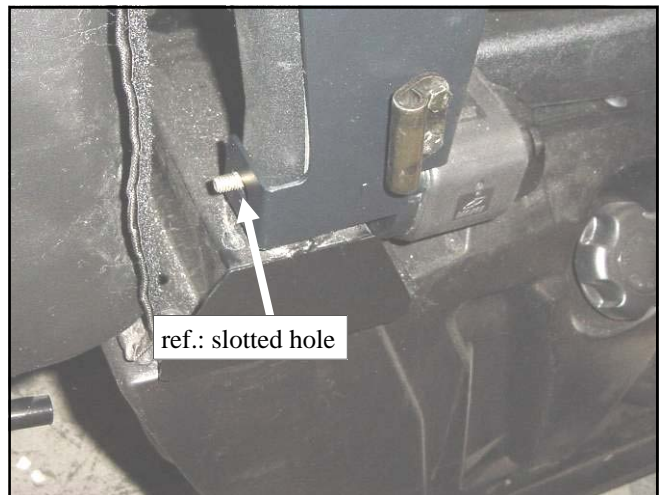
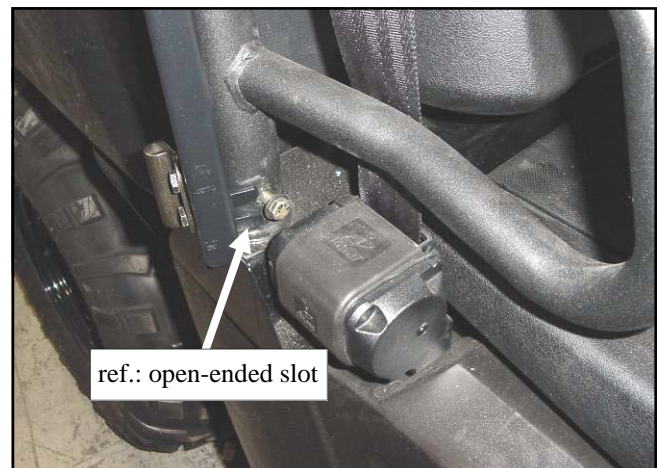

Fig. 6.6 (view from front passenger's side)
Fig. 6.6.1 (view from passenger's side)
6.6 Per fig. 6.6, install the hinge plate assembly to the vehicle by guiding the lower rear hole onto the threads of the previously installed new bolt as shown. Per fig. 6.6.1, rotate the front tab around the R.O.P.S. tubing so the open-ended slot engages the bolt underneath the flat steel washer that was left sticking out as shown. Push the bolt all the way in and install a washer and locknut on the back side. Do not tighten the bolt. Note: if the seat belt was loosened and rotated, set it back to its original position and tighten the bolt.